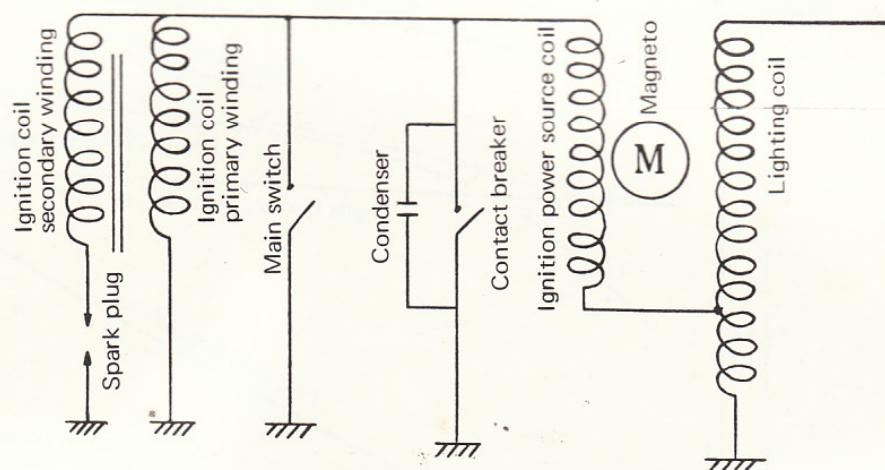

Fig. 5-1
1. Structure and function of the flywheel magneto (Fig. 5-1)